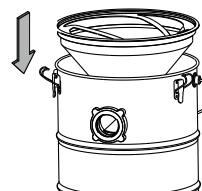

Fig 3
- Place the pre-filter into the container. The pre-filter is designed to cover the full circumference of the container (Fig. 3).